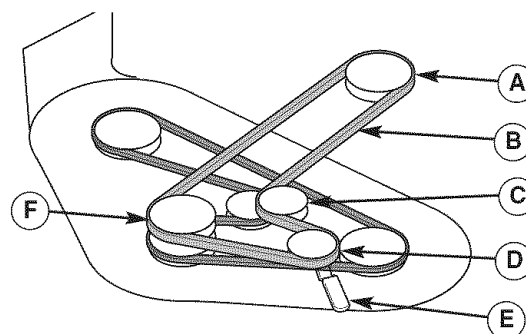

Figure 12. Mower Belt Routing
5. Use the mower belt release lever (E, Figure 12) to release tension on the mower idler pulley, and install the drive belt as shown in Figure 12.